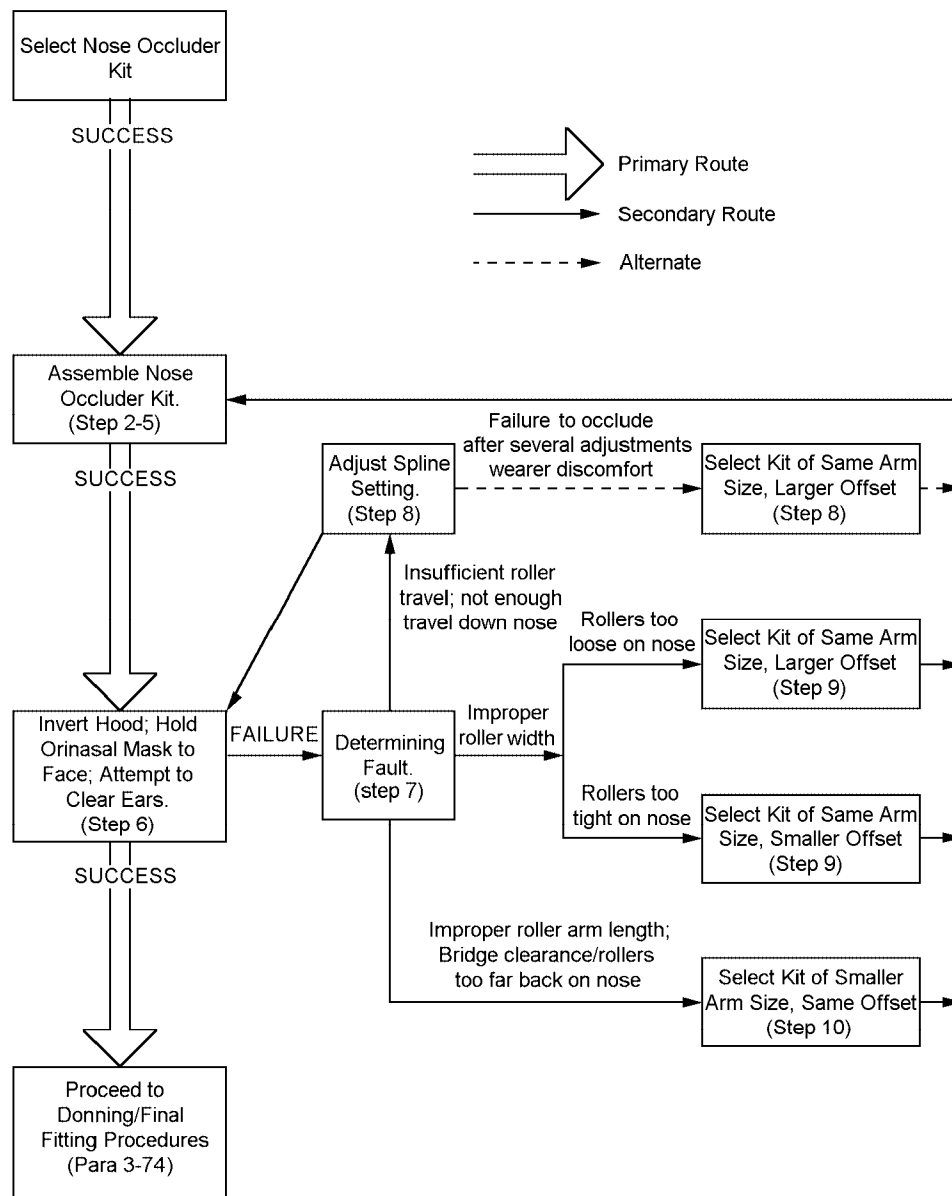

Figure 3-27. Nose Occluder Fitting Flow Diagram
7. If leakage of air through the nose is evident, determine which of the following adjustments should be made and perform corrective action (figure 3-27).